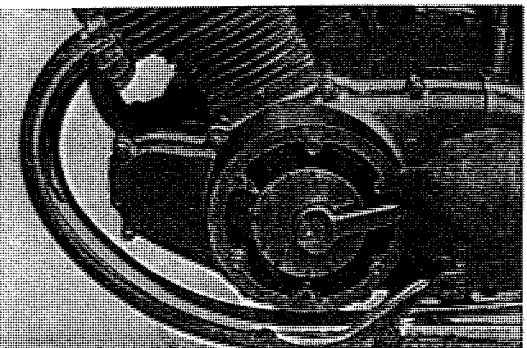

Fig. 6.12 Adjustment of timing
- e. To adjust point clearance, loosen the two breaker arm retaining screws and adjust (b) with a screwdriver. When (b) is turned to the right the clearance decreases. (Refer to Fig. 6.12)